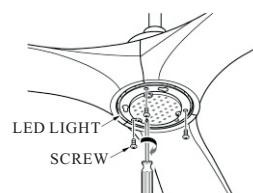

FIG.16
5. Screw back the 3 previously removed screws and tighten the light kit.(See fig.16)